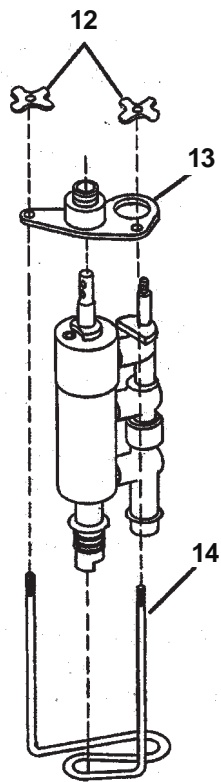

Figure 7. Pump Disassembly Step One
- E. Remove two small hand nut(s) (12) and top lock plate (13) from clamp rod (14). (See Fig. 7)
(See Fig. 7)